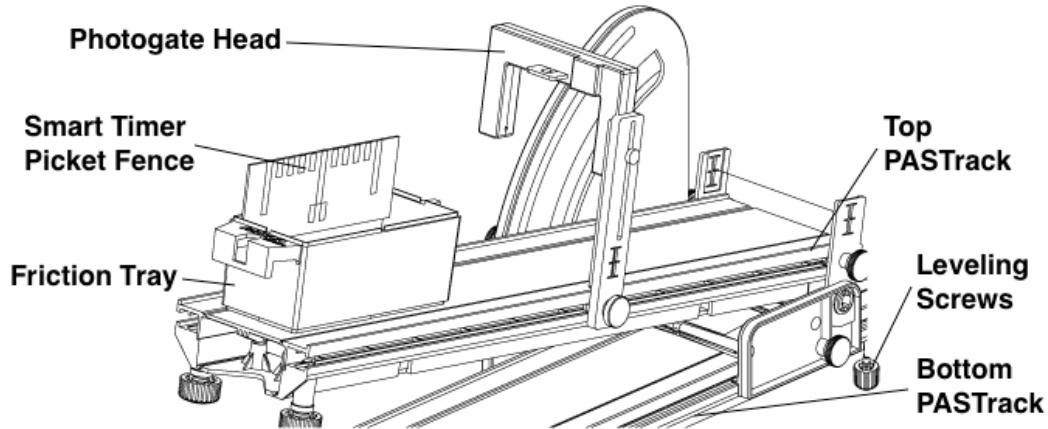

Figure 5: Inclined Plane Apparatus.
1. Set up the PAStrack and Inclined Plane Accessory as shown in Figure 5 with a Photogate Head and Photogate Bracket. Elevate the PAStrack to a shallow angle (a few degrees).